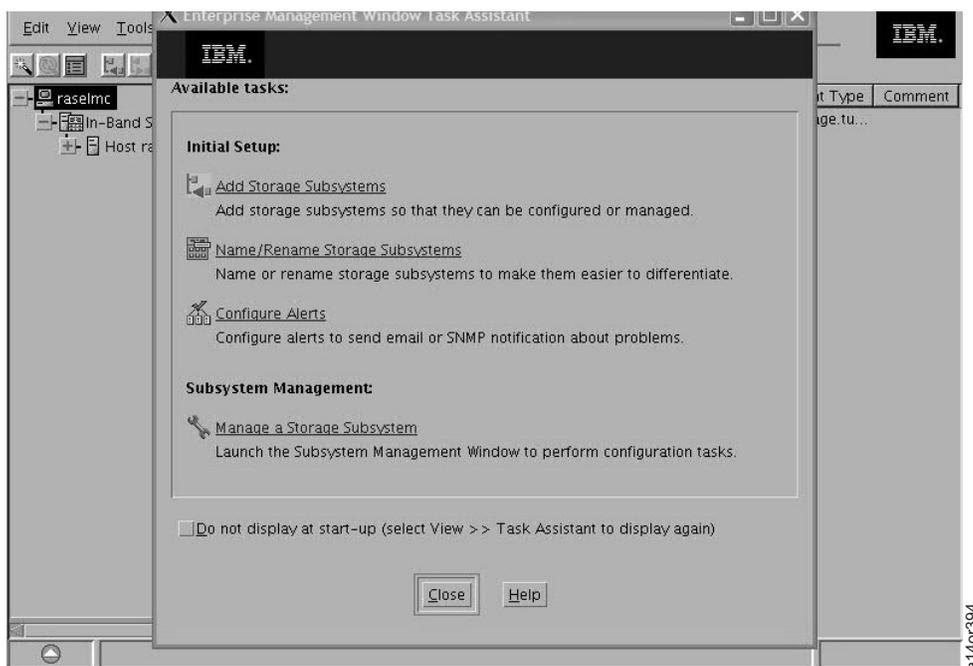

Figure 249. Storage Manager GUI Initial Screen
3. From the Main Menu, select **Browser Functions > Storage Manager GUI Functions > Launch GUI**. You see the browser window in Figure 249.